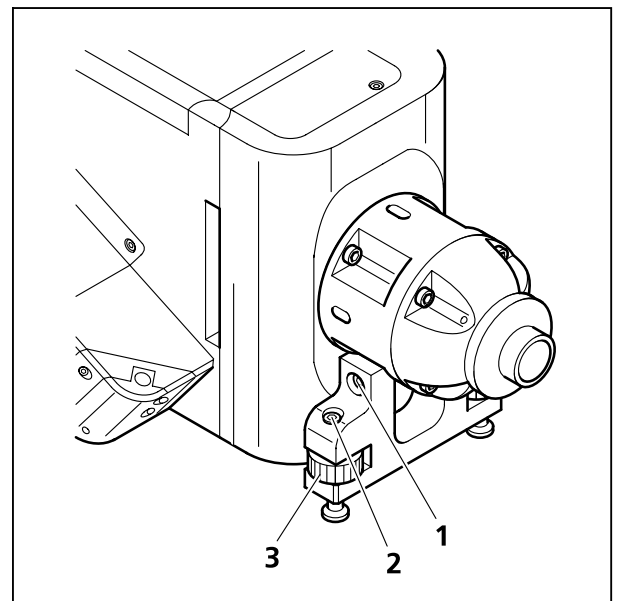

Fig. 3-3 Mounting the support legs
- Use two fixing screws (Fig. 3-3/1) to attach the support leg assembly to the camera adapter of the spinning disc unit.
- Turn setting screws (Fig. 3-3/2) (3" Allen key) as necessary to adjust the vertical leg position. Use the ring nuts (Fig. 3-3/3) to lock the support legs in position.